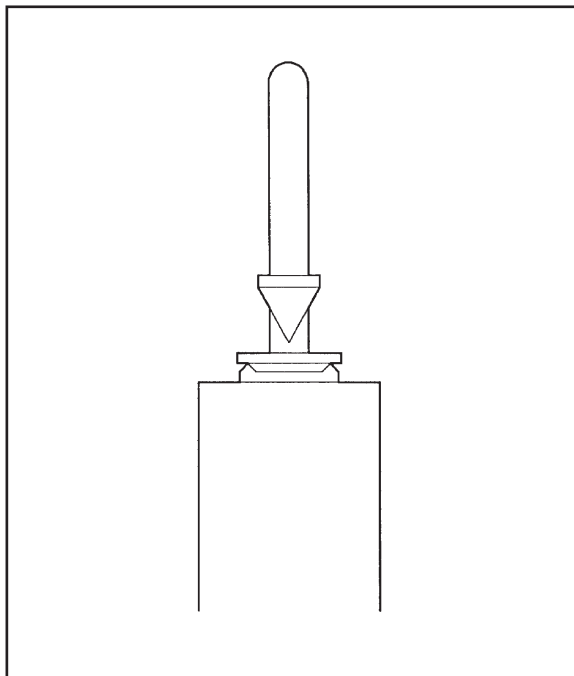

Figure 4.8
6. Position the sample and platform on the stage under the flexure probe tip so that the probe knife edge is parallel to the platform points and is centered between them (see Figure 4.8).